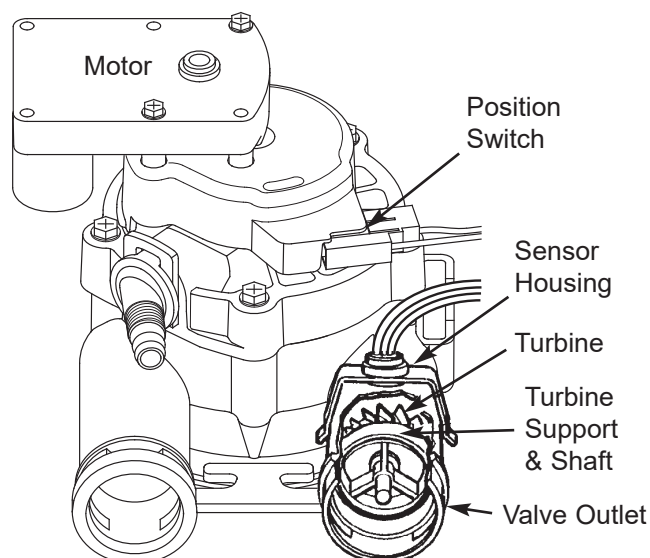

FIG. 41
**TURBINE OPERATION:** If no water is flowing through the softener, the turbine indicator displays three zeros. When water is flowing, a 000 to 199 count repeats for each gallon (3.8 liters) of water passing through the turbine. To check for positive operation of the turbine if zeros are shown, open a nearby soft water faucet and observe the turbine count. If you don't get a reading in the display with faucet open, pull the sensor housing from the valve outlet port (see Fig. 41). Pass a small magnet back and forth in front of the sensor. You should get a reading in the display. If you get a reading, unhook the inlet and outlet plumbing and check the turbine for binding.